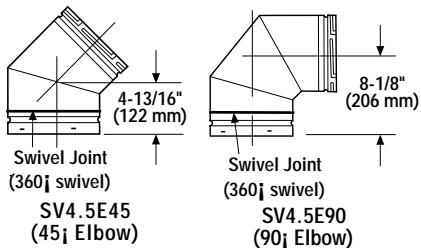

Figure 18
H. Change vent direction to horizontal/inclined run - At transition from or to a horizontal/inclined run, install the SV4.5E45 and SV4.5E90 elbows in the same manner as the straight vent sections. The elbows feature a twist section to allow them to be routed about the center axis of their initial collar section to align with the required direction of the next vent run element. **Twist elbow sections in a clockwise direction only so as to avoid the possibility of unlocking any of the previously connected vent sections.** See **Figure 18**.
Analyze the vent routing and determine the types and quantities of sections required 4-1/2" (114 mm), 10-1/2" (267 mm), 22-1/2" (572 mm), 34-1/2" (876 mm) and 46-1/2" (1181 mm) net section lengths are available. Plan the vent lengths so that a joint does not occur at the intersection of ceiling or roof joists. Make allowances for elbows as indicated in **Figure 18** on page 13.
J. Change vent direction - At transition from or to a horizontal/inclined run, install the SV4.5E45 and SV4.5E90 elbows in the same manner as the straight vent sections. The elbows feature a twist section to allow them to be routed about the center axis of their initial collar section to align with the required direction of the next vent run element. **Twist elbow sections in a clockwise direction only so as to avoid the possibility of unlocking any of the previously connected vent sections.** See *Figure 18* on page 13.